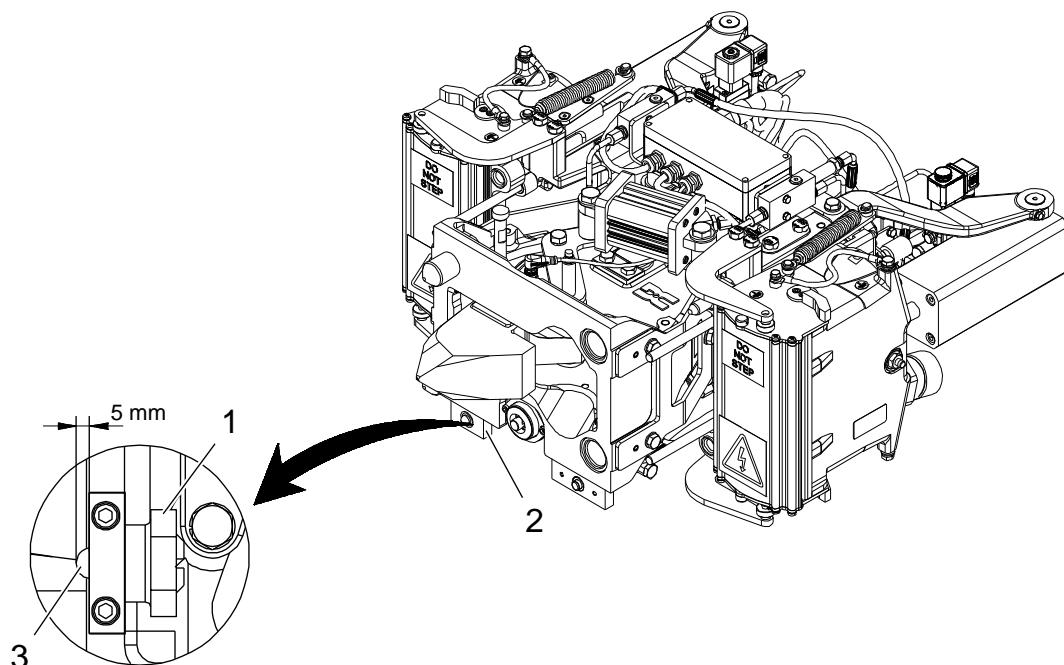

Figure 7-39: Adjustment of Indication Plate
1. Adjust the indication plate (2) by turning the nut (1) until the spring plunger (3) protrudes 5 mm from the mechanical coupler front face. See Figure 7-39.